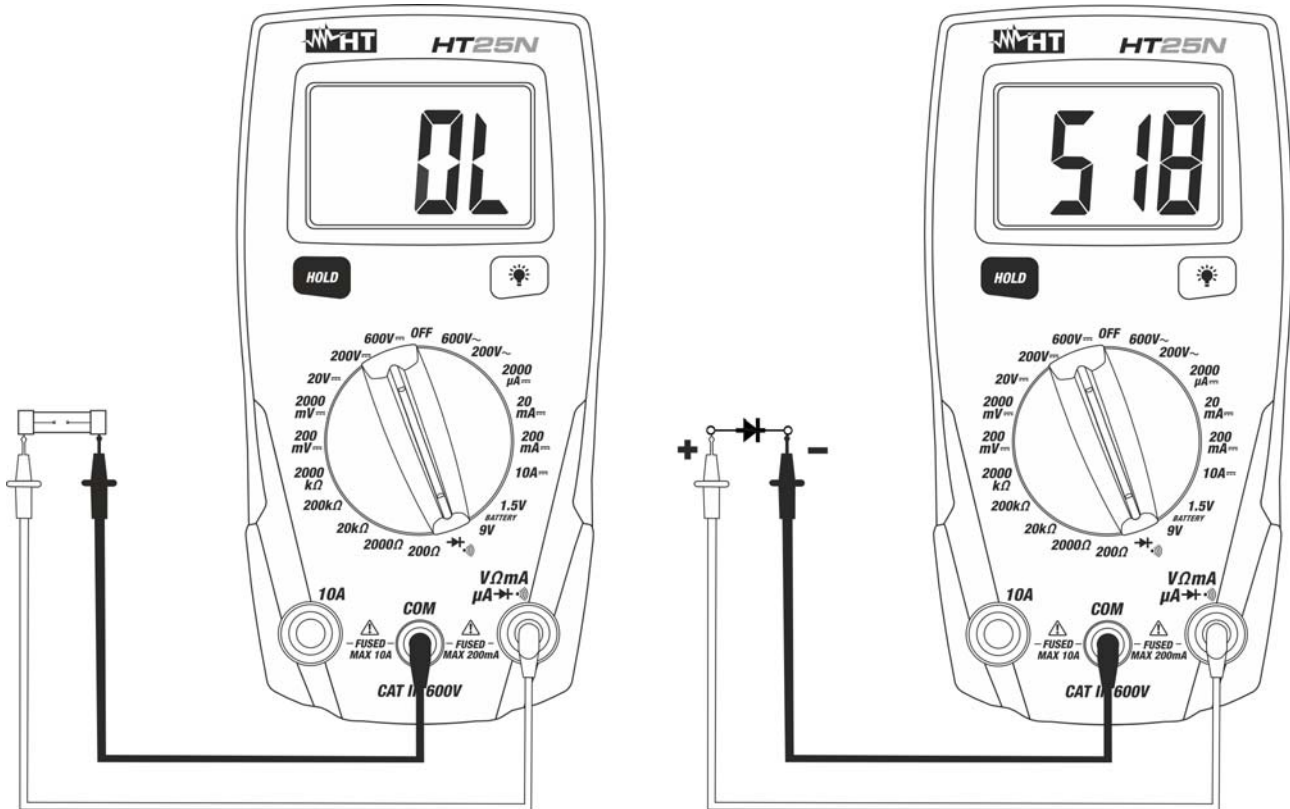

Fig. 6: Using the instrument for Continuity test and Diode test
3. Connect the test leads to the circuit under test (see Fig. 6 – left part)
5. Connect the test leads to the diode under test observing the proper polarities (see Fig. 6 – right part)